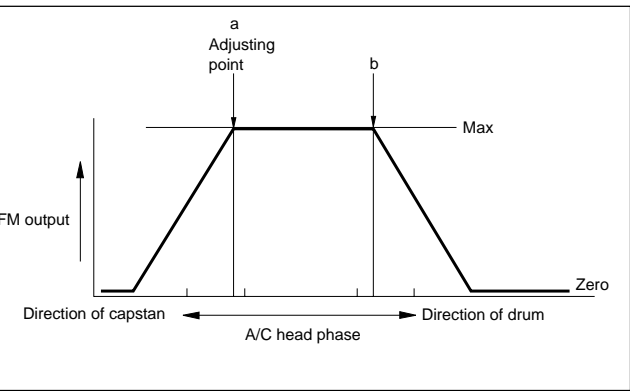

Fig. 2-4-8 Phase adjustment point of control head
- 3. Operate the tracking button in the center and manual tracking mode by pressing the tracking (+) and (-) buttons and confirm that the FM output level is maximum at the center position as shown in Fig. 2-4-8.
- 5. Gradually move the A/C head toward the drum to find the position where the FM output level maximum for the first time (a' - b' in Fig. 2-4-8).